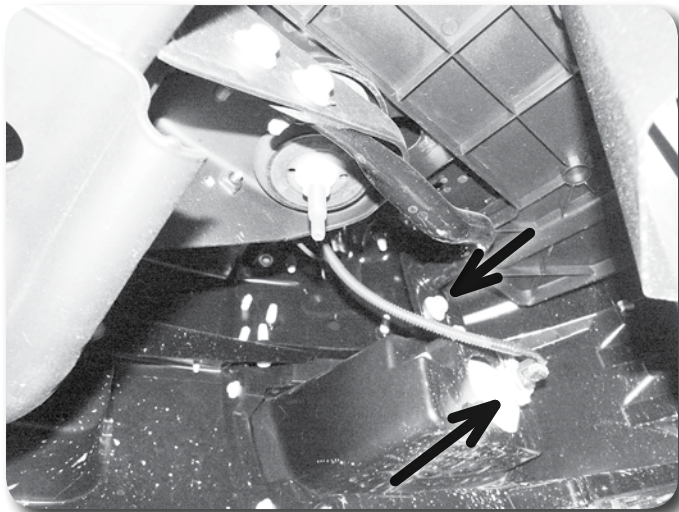

Figure 3
3. If equipped, disconnect the fog light wiring connectors from the fog lights **Figure 3**.
4. Disconnect the outer bumper supports from the bumper **Figure 3**. Save bolts.
46. Reattach the factory outer bumper supports to the bumper with the original hardware. Leave hardware loose. See **Figure 3** for proper orientation.